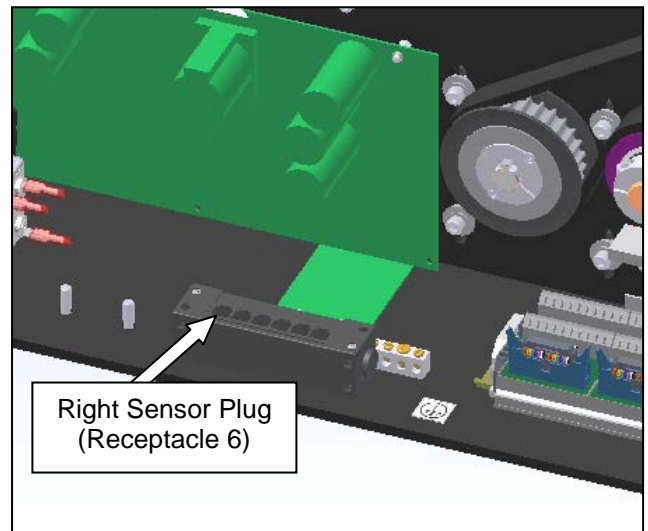

Figure 3-348. Stripper Plate Sensor Plugs
3. Locate the 6-position junction box, and unplug the connector in port 6. This should free the sensor completely from the machine. Gently pull the wire, being careful of other wires still in the machine (Figure 3-348).